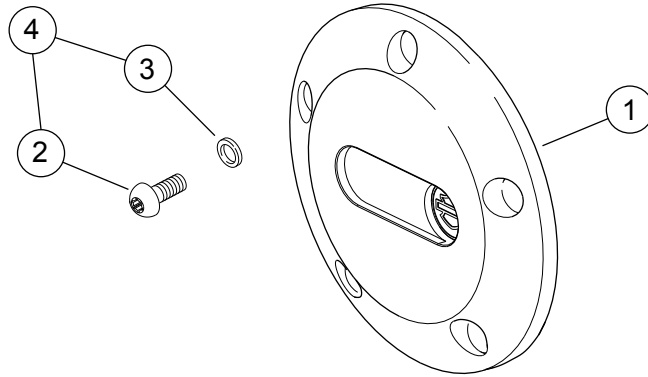

Figure 2. "Aluminator" Derby Cover
See Figure 2 and Table 1.
- b. See Figure 2. Place a washer (3) from the kit onto the threads of one of the **new** screws (2). Insert the screw threads through the top hole in the derby cover, and carefully thread it all the way through the triangular shaped hole in the gasket. Do not push the screw through the hole.